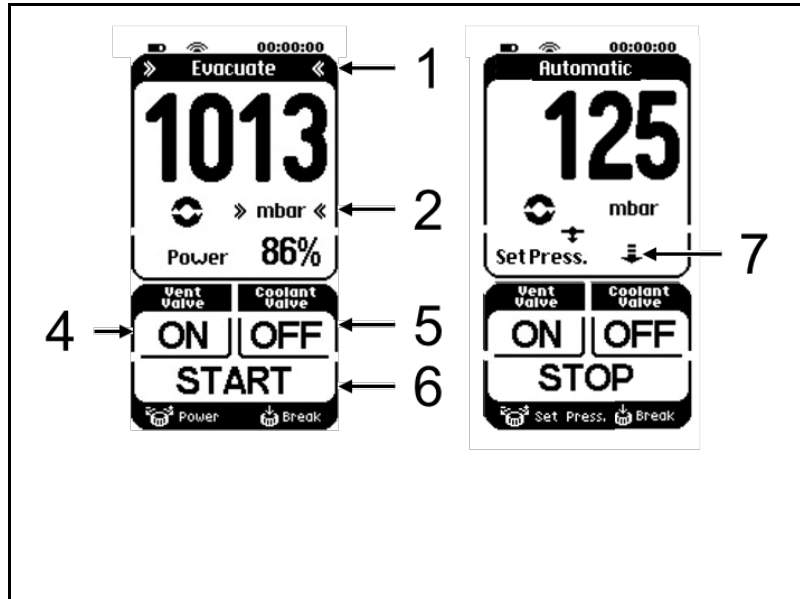

Fig. 9: Menus and buttons on the touchscreen
- Menu for selecting operating mode and units for pressure display (Fig. 9, page 24).
- Operating buttons (Fig. 9, page 24) with the following functions:
i If you press the arrow key (see Fig. 9/7) during automatic pressure reduction, the current pressure is applied as the new setpoint pressure and the vacuum pump system regulates to this pressure. The current setpoint pressure is shown in the display in place of the arrow.